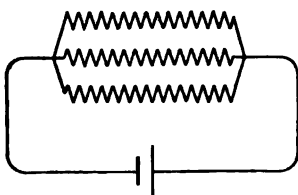

FIG. 253.—The three conductors are connected in parallel.
**274. Resistance of Conductors in Parallel.**—If three conductors of equal resistance are in parallel, the combined resistance is just one-third the resistance of each separately (Fig. 253). The rule that states the relation between the combined resistance of conductors in parallel and the separate resistances is as follows: *The combined*